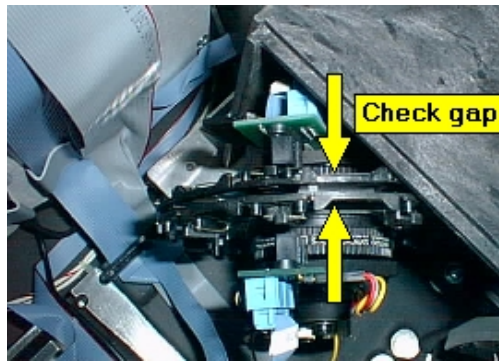

Figure 110 Checking the clearance
8. Before tightening the fixing screws fully, check that the emission filter wheel and emission polarizer wheel are correctly set and do not touch one another during rotation, as shown in Figure 110.